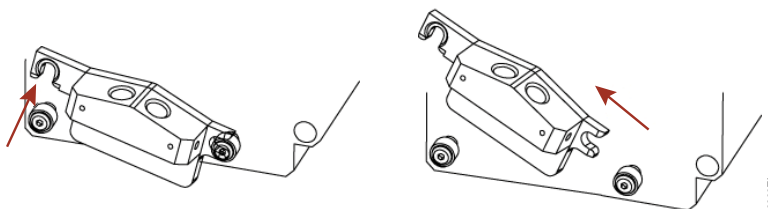

Figure 25. Changing the optical crosstalk mask.
2. Remove the injector tip holder from the optical head. Facing the front of the GloMax®-Multi+ Detection System, push the injector tip holder upward, then leftward (Figure 25).